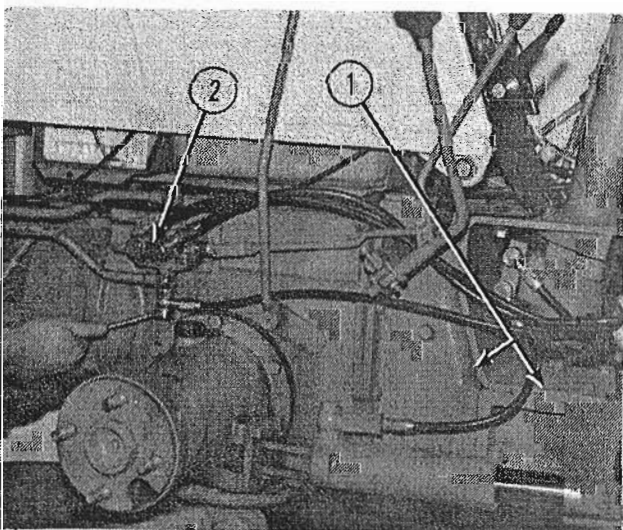

FIG. 1
The tractor will be separated at the aft end of the front transmission and the forward end of the steering weldment. (1, Fig. 1)
- (1) Hydraulic lines to rear lift and power steering manifold block at control valve. (2, Fig. 1)